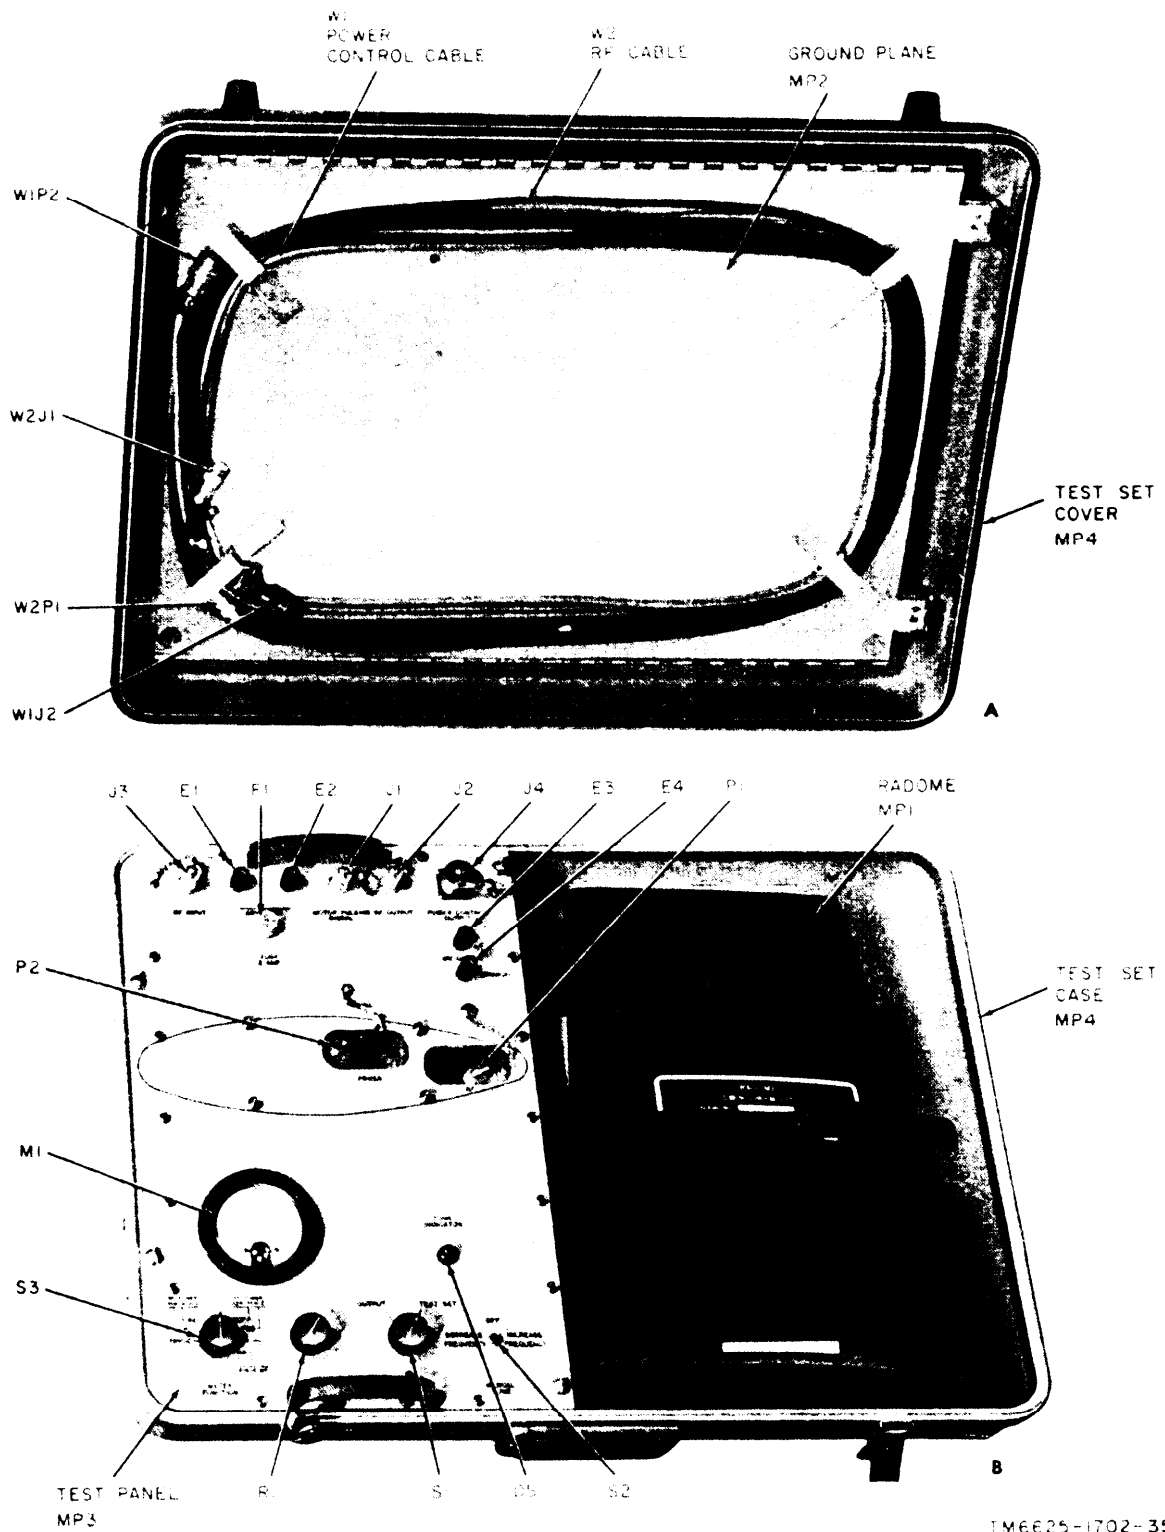

Figure 2-1. Test set front view, parts location.
Bench testing requires that a power supply and a Radio Set AN/ARC-131 or equivalent be connected to the test set. The 28-volt dc power supply must be connected for all tests. The AN/ARC-131 must be connected only in specific instances. Refer to figures 4-1 through 4-6 for test setups. Figures 2-1 through 2-3 provide parts location.
*a. General.* The troubleshooting chart (*b* below) provides tests to determine the section or stage of the test set that is causing the malfunction. After the trouble has been localized, follow the appropriate isolation procedure listed in paragraph 2-7 to locate the defective component. Refer to figure 2-1, 2-2, and 2-3 for location of parts, controls, and component of the test set.
The general precautions in *a* through *c* below should be observed when replacing parts in this equipment. See figures 2-1 and 2-2 for location of test panel parts.